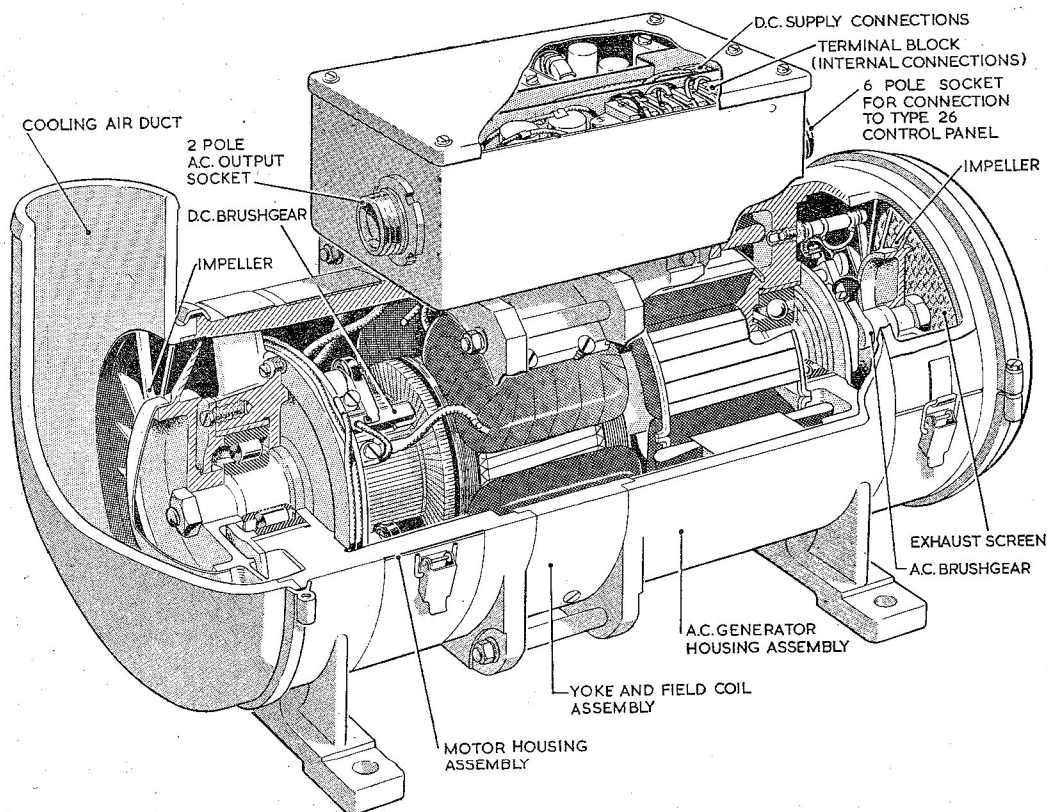
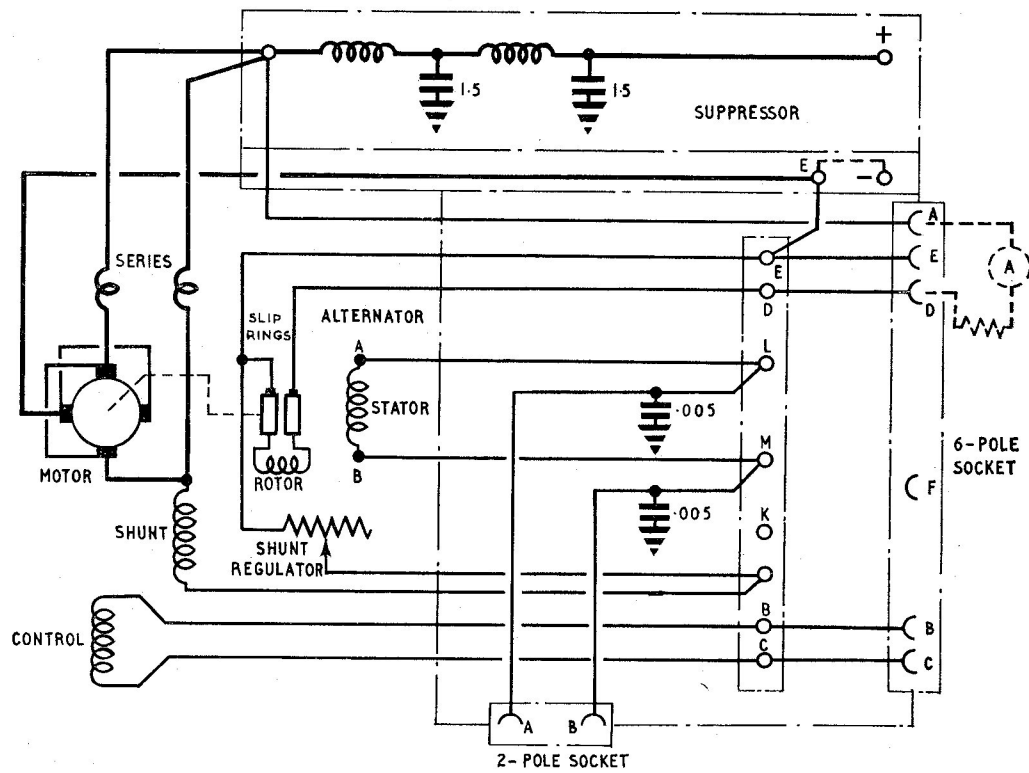

Fig. 1. Sectional view of inverter
Fig. 2. Circuit diagram
1. The inverter, Type 108 (Rotax S3303/1) is generally similar in construction to that described in the main chapter. A sectional view is given in fig. 1, and the internal connections are shown in fig. 2. When used in conjunction with a control panel, Type 26 (Rotax U1504), it will give an output of 115-volts, 400 c/s, single-phase a.c. from a 25-28 volts d.c. input, supplying either (a) 770W at a lagging power factor of between 1.0 and 0.84, or (b) 650W at a leading power factor of between 1.0 and 0.95. It is used with a starting switch, Type 1A, No. 5 (Rotax U2005/1), and must not be started up on load.